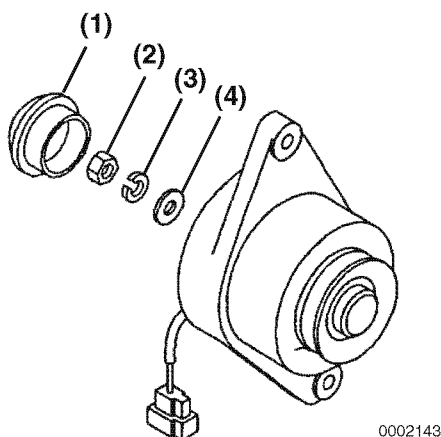

Figure 12-29
5. Reinstall the flat washer (**Figure 12-29, (4)**), lock washer (**Figure 12-29, (3)**), and nut (**Figure 12-29, (2)**). Tighten the nut to the specified torque.
6. Reinstall the rear cap (**Figure 12-29, (1)**).